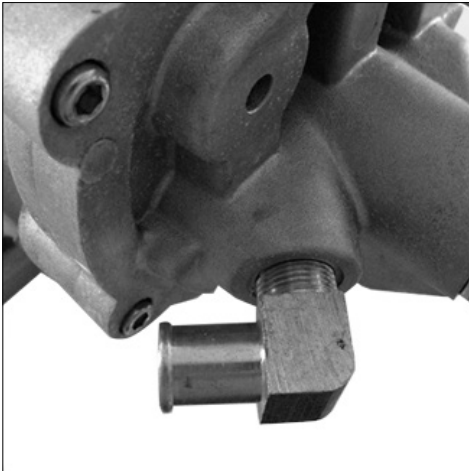

Figure 14: Beaded Hose Barb
Step 2: Orient the fittings so the 5/8" coolant hoses will clear surrounding components (Figure 14).